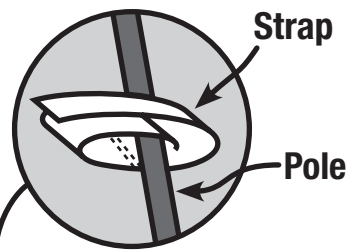

Fig. 11
- Secure rainfly with straps located on the underside of rainfly. (Fig. 11)